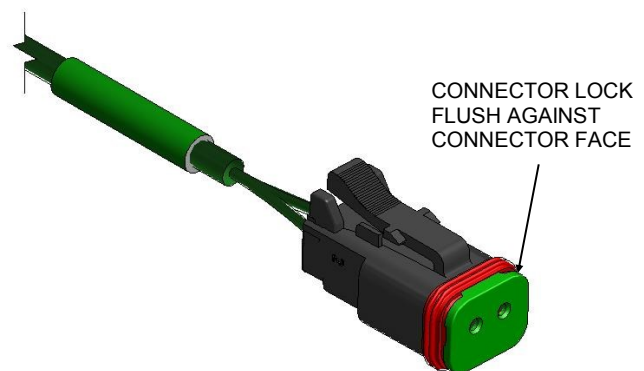

Figure 4.3.3d
3. Insert the included connector lock into the slot on the front of the connector. The lock will snap into place and is fully installed when in contact with the connector face (See Figure 4.3.3d).